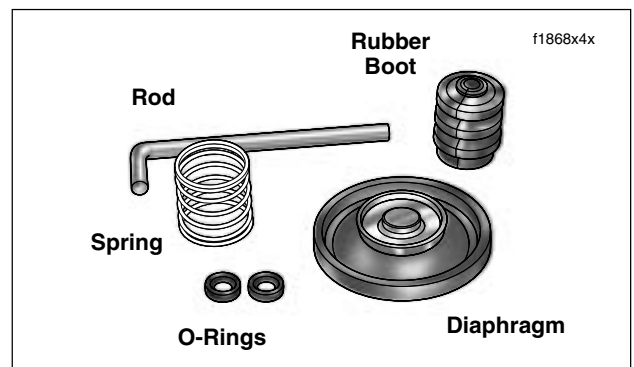

Figure 4-10. Accelerator Pump Components
- Disassemble accelerator pump from float bowl. See Figure 4-10. Proceed as follows: